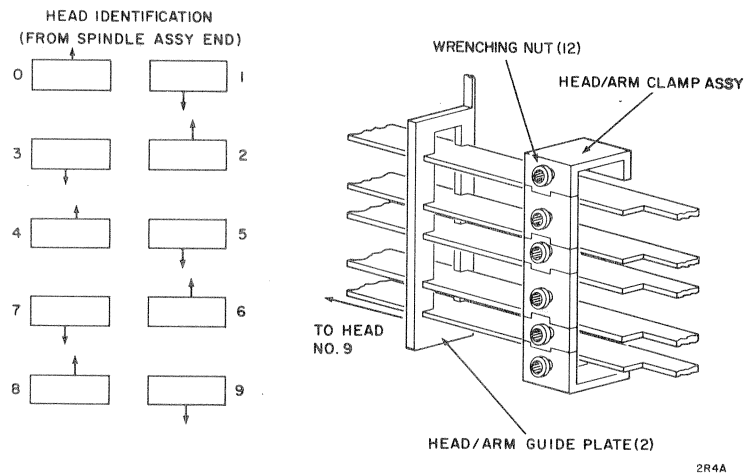

Figure 6-7. Head/Arm Assembly Adjustment
3. Determine the faulty head. Refer to Figure 6-7 for the physical location of the head.
5. Loosen the wrenching nuts immediately above and below the faulty head/arm (Figure 6-7).
5. Loosen the 12 wrenching nuts (Figure 6-7) through the head/arm clamp.
6. Note the orientation of the head arms and mark the arms. Refer to Figure 6-7 for head identification.
11. Referring to Figure 6-7 and step 6, carefully thread the connector plug for a head/arm assembly through the head/arm guide plate and clamp. Slide the head/arm into the slots in the guide plate and back to the head/arm locating block. Thread the head/arm cables through the cable retainer connected to the head latch assembly. Repeat this procedure for each of the nine remaining head/arm assemblies. Using a torque Allendriver (84255000), tighten the 12 wrenching nuts in the head/arm clamp to 6 ± 0.5 inch-pounds.